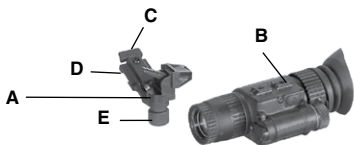

FIGURE 3.9. ATTACHING ADAPTER TO ATN NVM-14
1. Attach the adapter (Figure 3.9, A) to the rail (B) of ATN NVM-14. Push the clip (C) and slide the rail of monocular into socket (D) of adapter. Push the clip until the adapter will lock the alignment groove in the monocular.
3. With this adapter you may see through the eyepiece using either right or left eye. To change the viewing eye, loosen the nut (Figure 3.9, E) and rotate the socket (D) 180 degrees. Tighten the nut (E) anew.